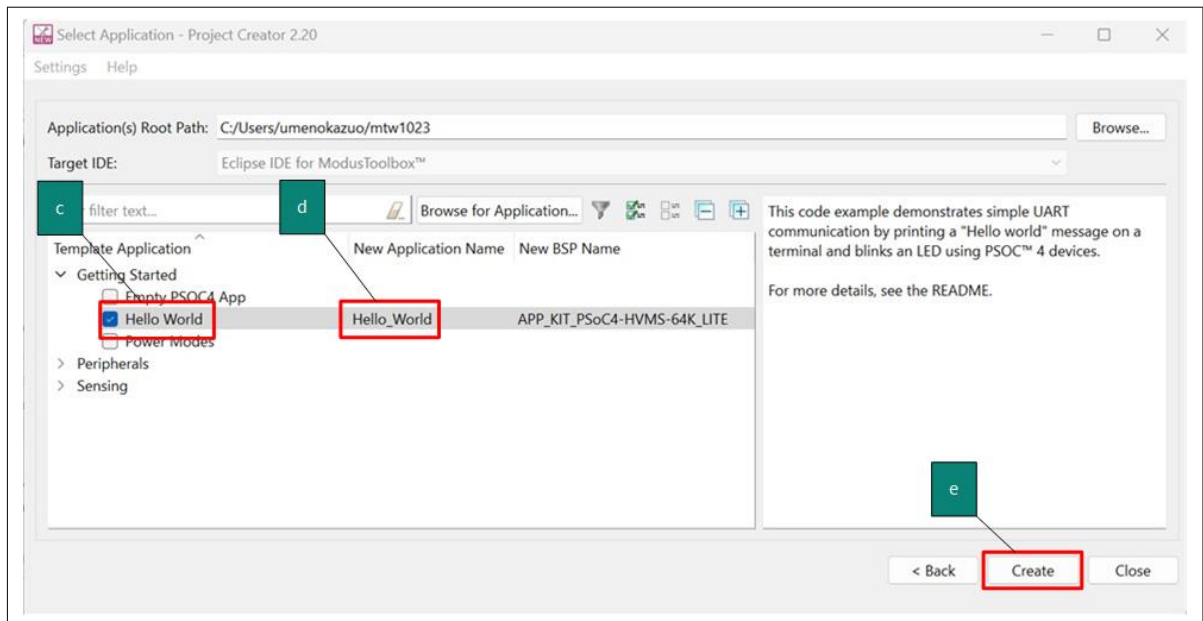

Figure 9 Choose the starter application
- In the Starter Application dialog, select **Getting Started > Empty App starter application**, as Figure 9 shows
- Click **Create** to create the application, as shown in Figure 9. Wait for the Project Creator to automatically close once the project is successfully created